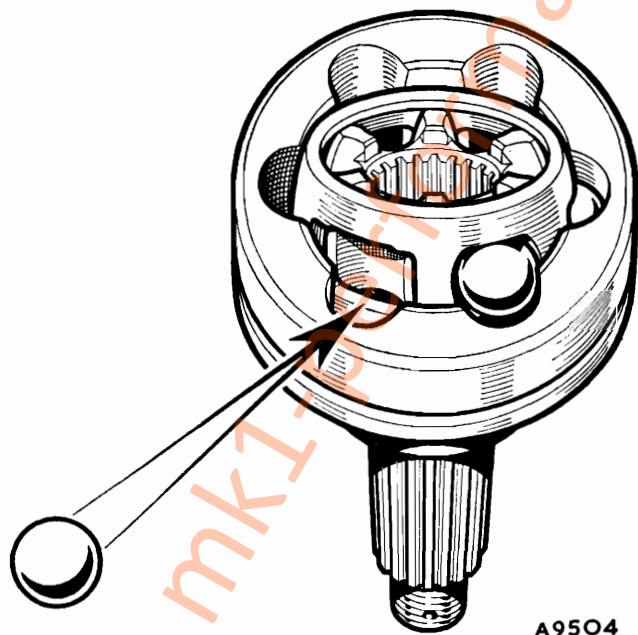
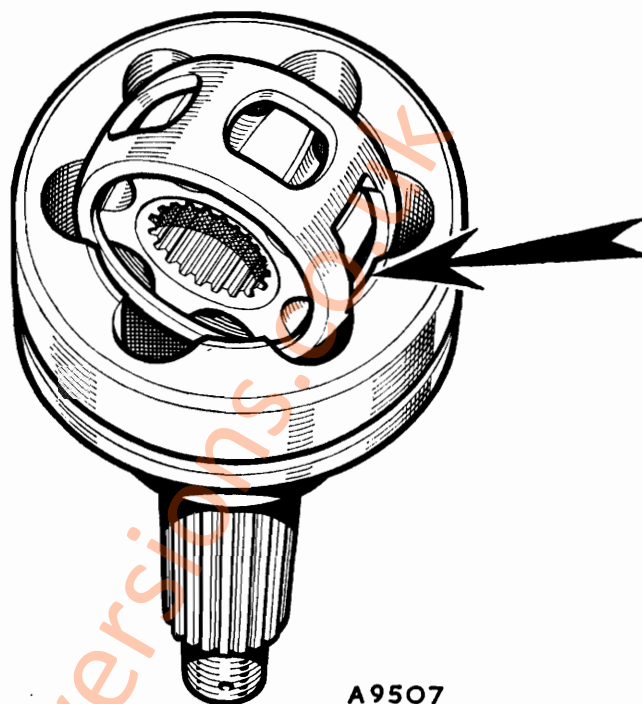

Fig. G.2
Fig. G.3
- (5) The joint should be dismantled only if there is reason to believe that it is still serviceable.
- (6) As the components are mated and have operated together, they must be kept in the same mating relationship. The relative positions of the inner and outer races and the cage should be marked with blue marker or a paint which will not wash off when the parts are cleaned.
- (7) With the shaft withdrawn the inner race can swivel freely, tilt the inner race until one ball is released (Fig. G.2). Note that the cage swivels through half the angle of the inner race. If the joint is sticky with grease each ball may be eased out in turn with a pointed tool.
- (8) Swivel the cage into line with the axis of the joint and turn it until two opposite elongated windows coincide with two lands of the bell joint. One land will drop into a window, allowing the cage and race assembly to be lifted out (Fig. G.3).
- (18) Insert the cage and inner race assembly into the bell joint by fitting one of the elongated windows over one of the lands in the outer race (Fig. G.3). The three parts can now be turned or swivelled freely in relation to each other.
- (19) Locate the cage and inner race in their original position relative to the bell joint (as marked before dismantling).
- (20) Keeping this relationship between the parts, tilt the cage until one ball can be inserted in a window. Repeat this operation with the remaining balls (Fig. G.2).
- (21) Ensure that the inner race articulates freely with the cage in the bell joint, but care must be taken not to release the balls.
- (22) The joint should be filled with the remainder of the pack of Duckham's M-B grease, before inserting the shaft.
- (23) Fit a new rubber boot if necessary, smearing the inside with Duckham's M-B grease, take care when easing the boot over the circlip on the shaft.